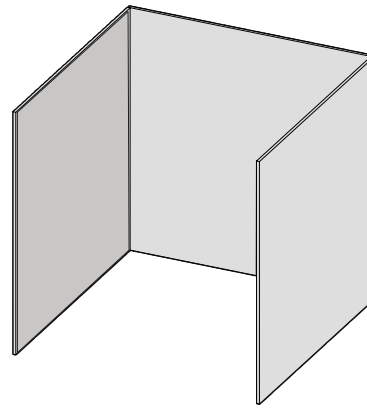

Fig. 1
- The appliance is considered outdoors if installed in a shelter with walls on three sides but no overhead cover. **(Fig 1).**